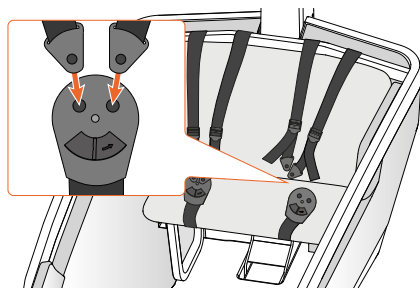

Figure 34 - Close the three-point seatbelts.
1. Place the bike on the stand ⑩.
4. Click the ends of the shoulder straps into the clasp, as indicated in Figure 34: